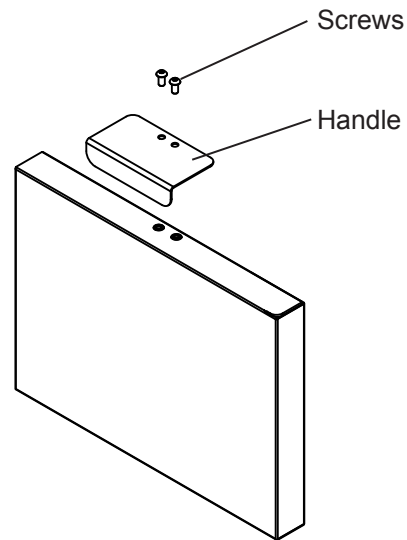

Figure 9
1. Remove the handles, (4) screws, and $\frac{5}{32}$ " allen wrench from the bag shipped inside the cabinet.
2. Locate handle centered on top of drawer and secure in place using the (2) screws with the allen wrench. (See Figure 9).